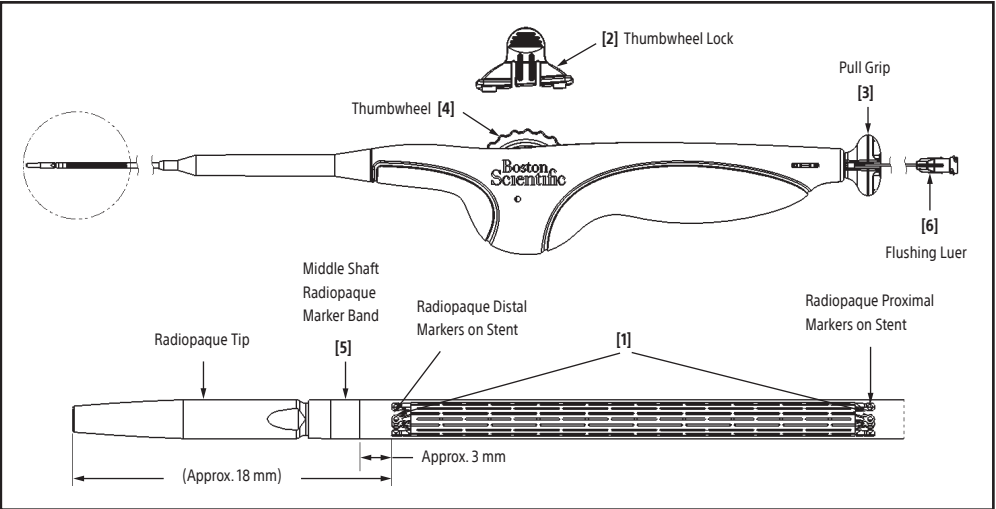

Figure 4. Stent Delivery System
- Attach a 10 ml (10 cc) syringe filled with saline to the flushing luer [6] on the handle. Apply positive pressure. Continue to flush until saline appears at the distal end of the guidewire lumen. Remove the flushing luer [6] (by pulling the syringe or by pulling flushing luer [6]) (Reference Figure 4).